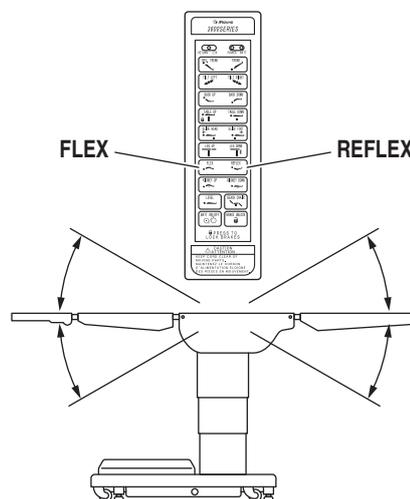

Figure 2-13. Flex/Reflex Positioning
**h. Flex Positioning** To place the table top in a flex position from horizontal, press the FLEX button (figure 2-13). To return the table top to a horizontal position or into a reflex position, press the LEVEL or REFLEX button.